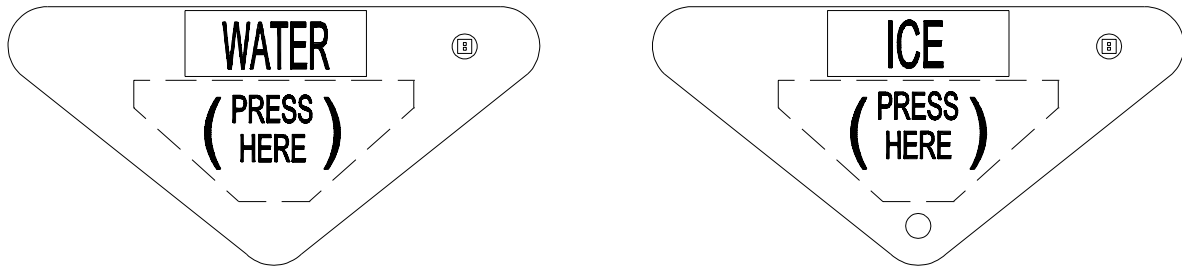

Fig. 3
- Check that the ice dispensing switch and the water switch are operating correctly. See Fig. 3